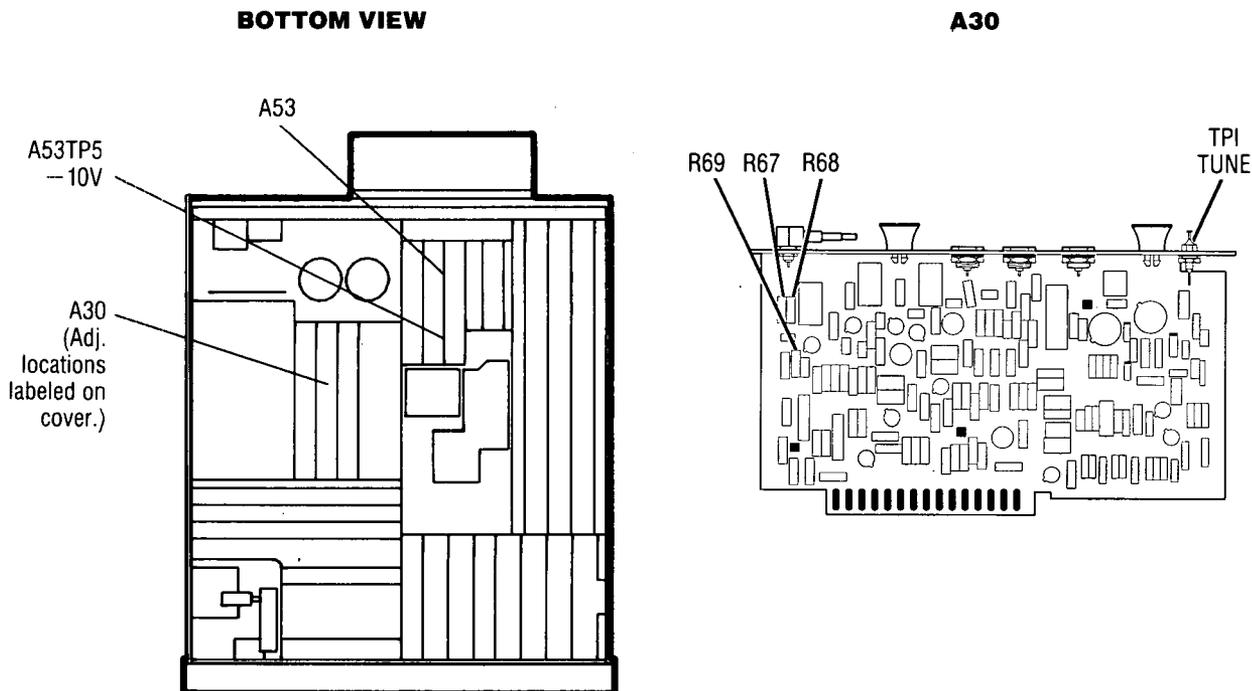

Figure 5-6. Location of A30 100 MHz VCXO Adjustments
18. If the amplitude of the 400 MHz signal is not within 3 dB of -10 dBm , note the amplitude and change the values of A30R67, A30R68, and A30R69 as necessary to adjust the amplitude to $-10 \text{ dBm} \pm 3 \text{ dB}$. Table 5-5 contains a list of attenuations in 1 dB steps and the corresponding values for the attenuator network resistors to adjust the level to -10 dBm . Refer to Figure 5-6 for location of resistors.